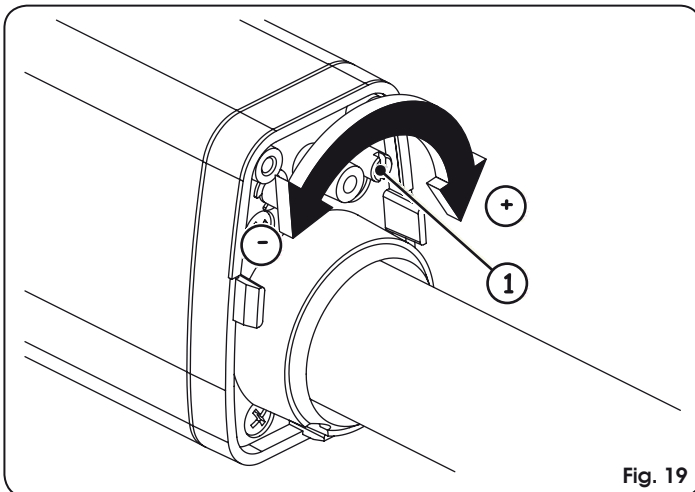

Fig. 19
2. To adjust the closing limit switch FCC turn the adjusting screw clockwise, Fig. 19 ref. ①, to increase the rod stroke and counter-clockwise to reduce it.